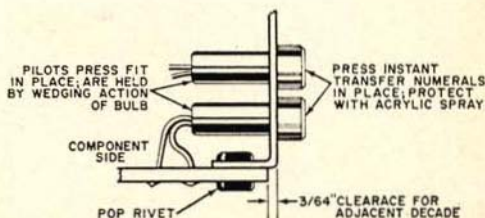

Fig. 5. Drilling details for the lamp bracket are shown at the left. The bracket is secured to the printed board and bulbs inserted as shown above.
Misc.—Aluminum bracket—(see Fig. 5); pop rivets (2); #24 wire jumpers (8); PC terminals (6); 3/16"-high instant transfer numerals, black; solder, etc.
The readout lamp display bracket is cut and bent out of 1/32" aluminum following the layout in Fig. 5. Two pop rivets secure the lamp bracket to the board. The indicator lamps press-fit into the holes in the bracket, through the front, and are secured by the wedging action of the plastic lens caps. Each pair of bulb leads is soldered to the respective PC board terminals. Bulb marking (0 through 9) is done with 3/16" black instant transfer numerals, which are applied to the plastic lens cap, then coated with a clear acrylic spray.